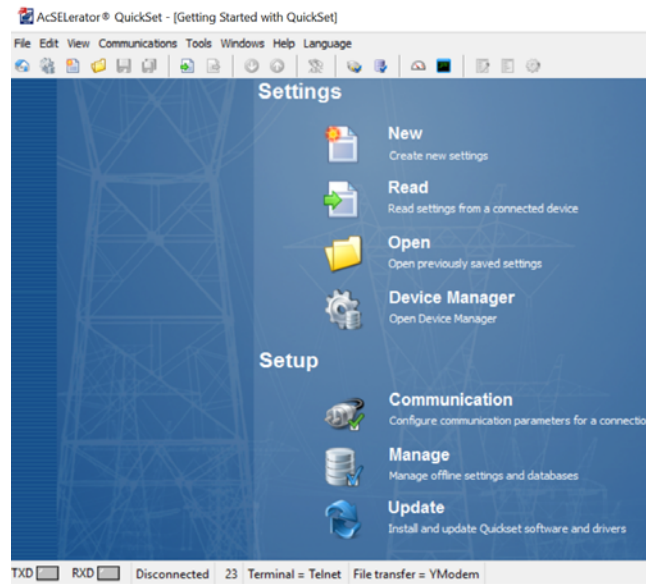
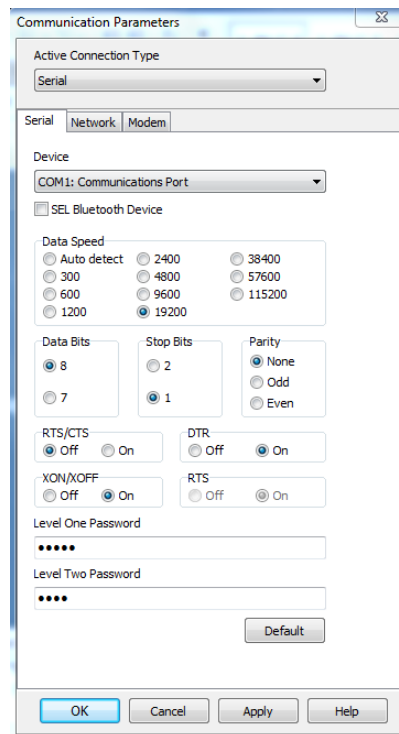

Figure 48: QuickSet Main Window
Figure 49: SEL-421 Communication Parameters Window
36. On the QuickSet main window (Figure 48), open the Communication Parameters window (**Communications, Parameters**) (Figure 49) to define and create a communication link with the 421. Enter the following information for a Serial Active Connection Type: